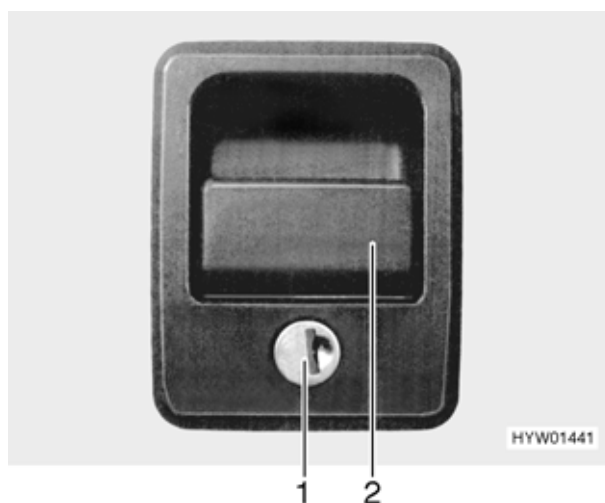

Fig. 31 Flap lock (variant 1)
- Insert key into locking cylinder (Fig. 31,1) and turn a quarter turn in an anticlockwise direction. The flap lock is open.
- Pull on the lock handle (Fig. 31,2). The external flap is open.